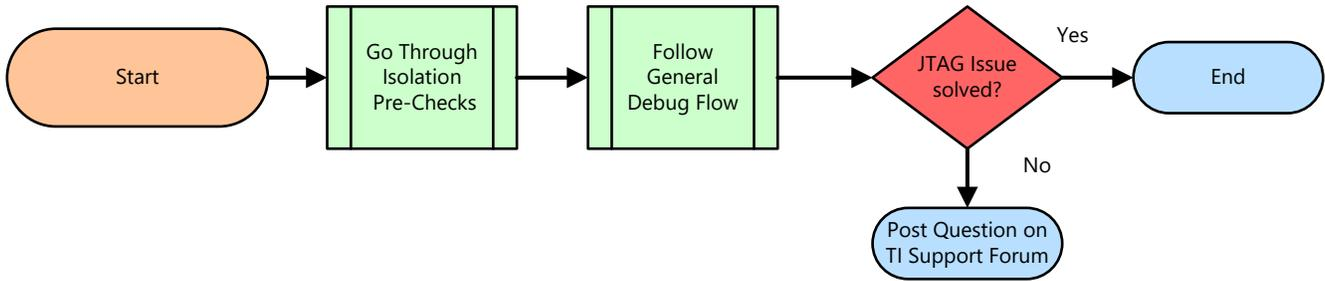
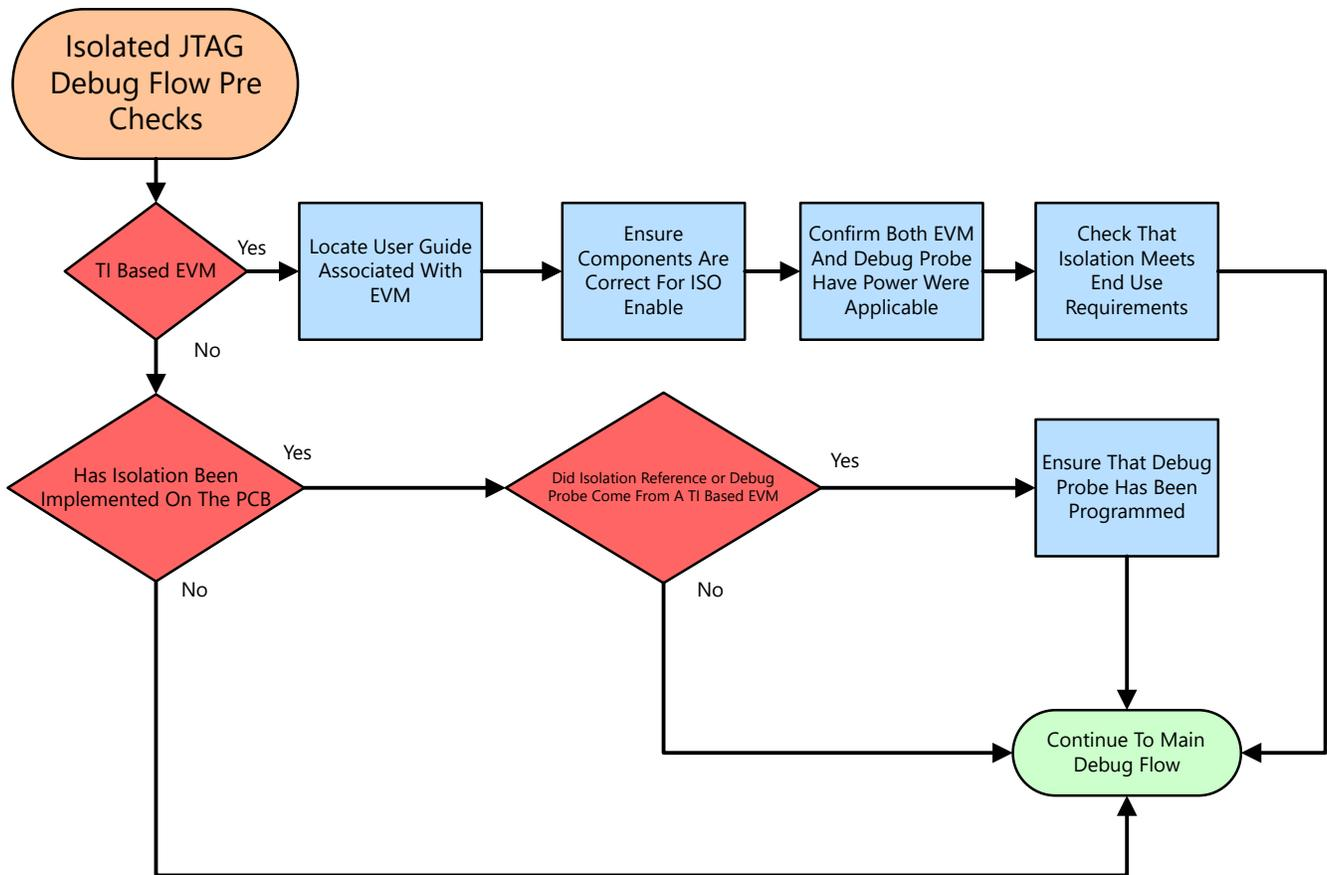
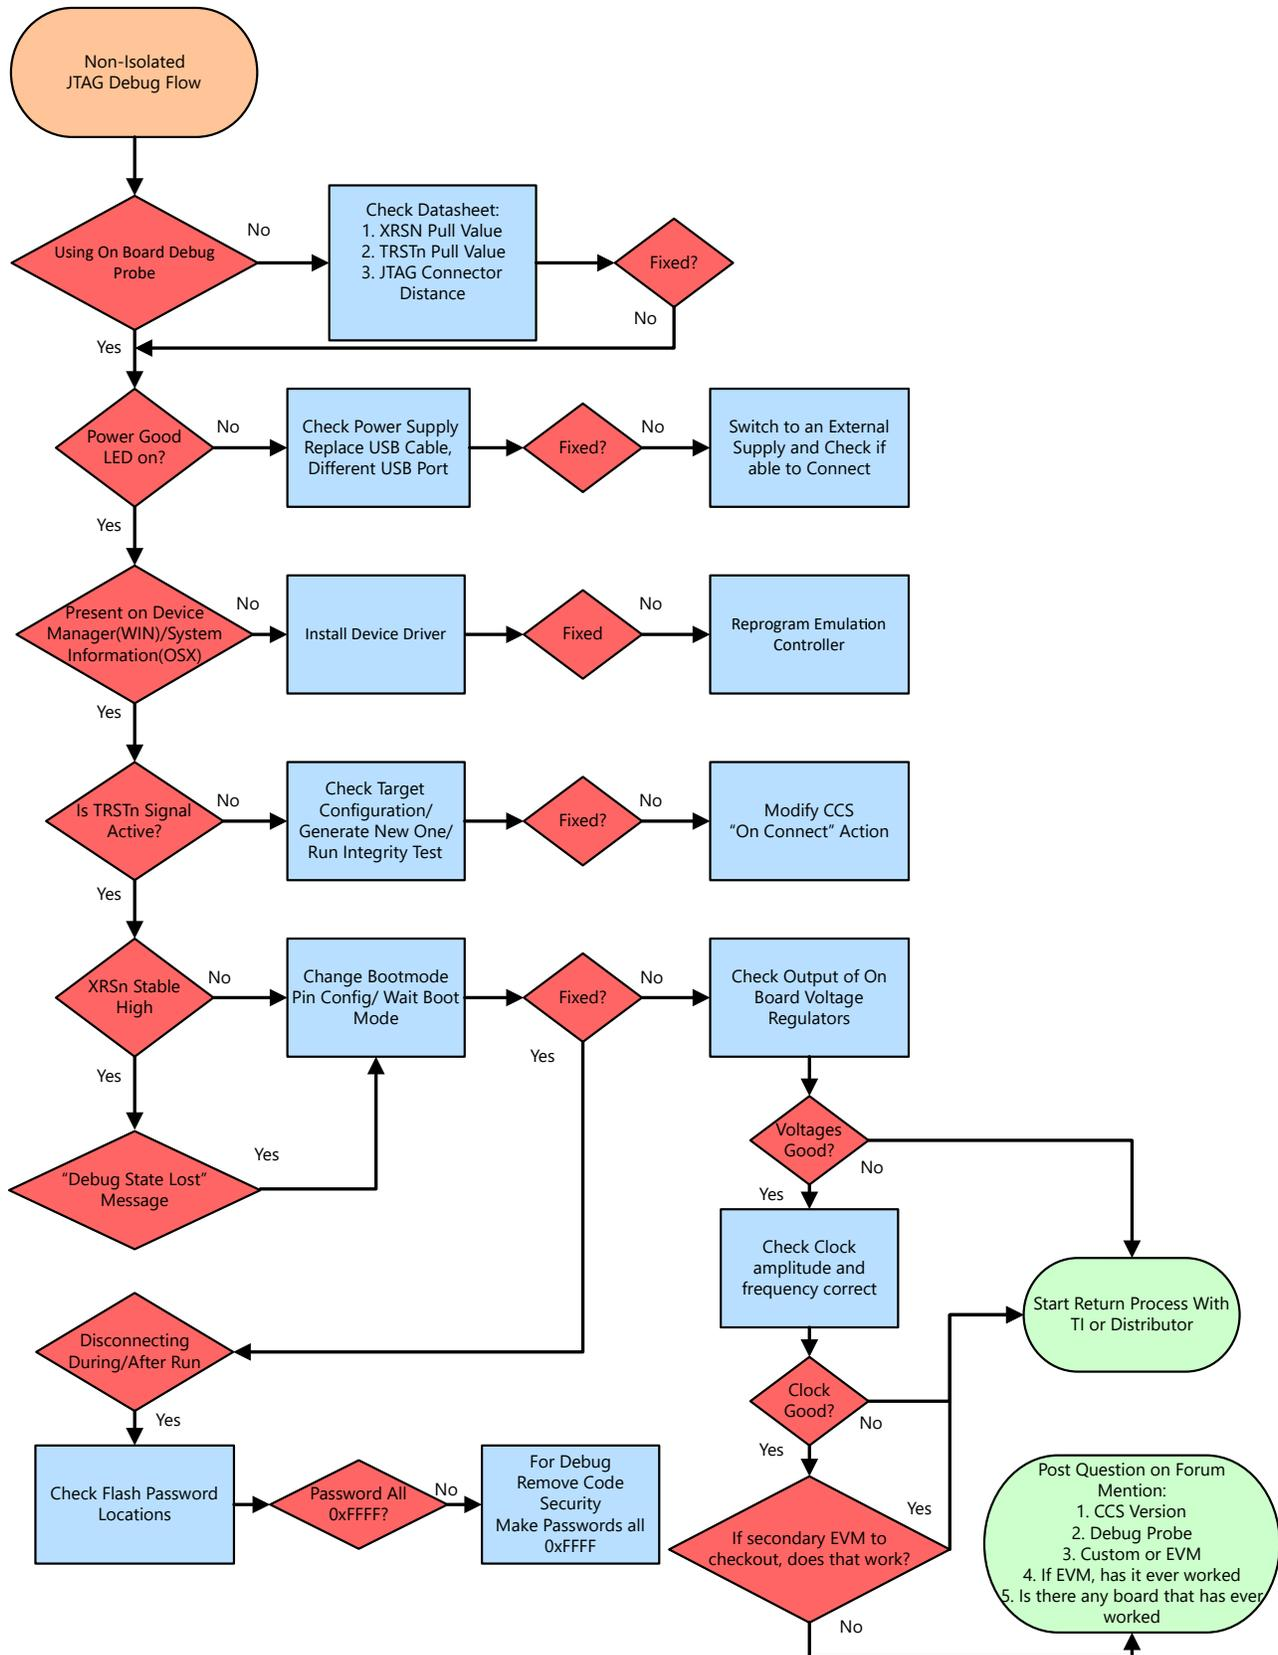

Figure 3-1. Overall Debug Flow
Figure 3-2. JTAG Isolation Pre-Checks
Figure 3-3. JTAG Debug Flow
1. Review the steps in Figure 3-1 and go through the High Voltage Isolation Flow first. This is important even if isolation is not a main concern, since it can have an impact on the emulation aspect of the PCB.
Many C2000 applications are high power in nature. Because of this, it is desirable to isolate the power plane of the target board from the host computer while debugging. Many TI manufactured boards have isolated emulation, or have on-board options to enable it. The flow chart shown in Figure 3-2 is included to help identify whether isolated JTAG is present, and if so, troubleshoot common issues in these systems. There are also stand-alone debug probes that provide isolation as well; this flow does not pertain to them.
Beginning with the Overall Debug Flow (Figure 3-1), decide if the High Voltage Isolation Check Flow (Figure 3-2) is needed or not. Once complete, go through the Main JTAG Debug Flow (Figure 3-3) step by step.